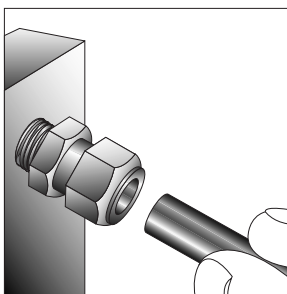

Figure 34
1. Parker instrument tube fittings are sold completely assembled and ready for immediate use. Simply insert the tube as illustrated in Figure 34 until it bottoms in the fitting body. (If the fitting is disassembled, note that the small tapered end of the ferrule(s) go into the fitting body.)